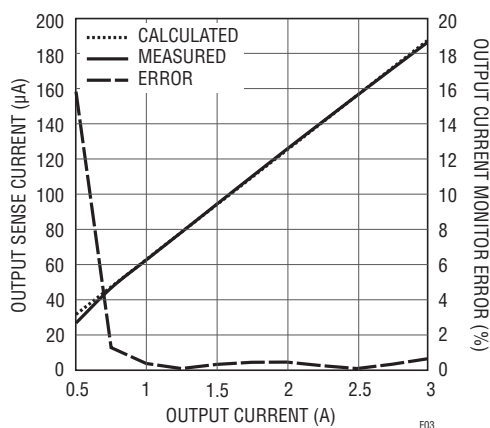
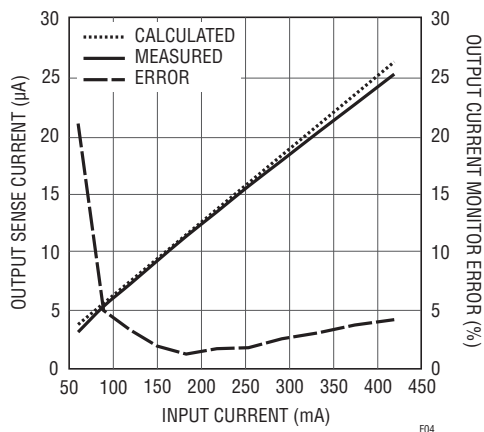

Figure 3. Output Current vs Output Current Monitor
Figure 4. Input Current vs Input Current Monitor
3. The eye diagram at the end of an ISI PCB trace can be directly measured by an oscilloscope and compared against the JESD204B Rx mask to determine if there are unacceptable levels of insertion loss. Compare this nearly closed eye to the one in Figure 4.
The LTC3626 senses the output current through the synchronous switch during the switch's on-time and generates a proportional current (scaled to 1/16000) at the IMON_{OUT} pin. Figure 3 shows the accuracy of the IMON_{OUT} output by comparing the measured output of the IMON_{OUT} pin with calculated values. Error remains less than 1% over most of the output current range.
Likewise, this same sense current signal is combined with the buck regulator's duty cycle to produce a current proportional to the input current—again by 1/16000—at the IMON_{IN} pin. A precision of better than 5% is achieved over a wide current range (see Figure 4).
Compare Figure 3 showing an eye diagram at the end of an ISI PCB to Figure 4, the eye diagram going into an ISI PCB. In this case, the data rate is 5 Gbits/s, the ISI PCB has 8 dB of insertion loss at 4 GHz, and emphasis is off.
4. Eye diagram mask measurements enable you to compare insertion loss from different PCB trace lengths. See Figure 3 for a higher degree of insertion loss leading to a closed eye diagram compared to this eye going into an ISI PCB.